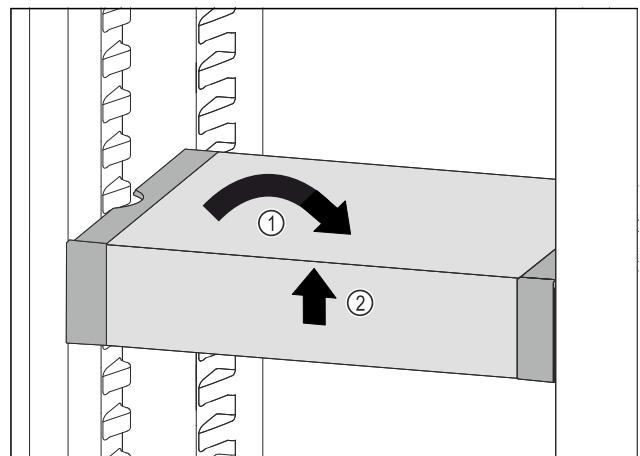

Fig. 118
► Set VarioSafe straight. Fig. 118 (1)
► Lift VarioSafe at the front. Fig. 118 (2)